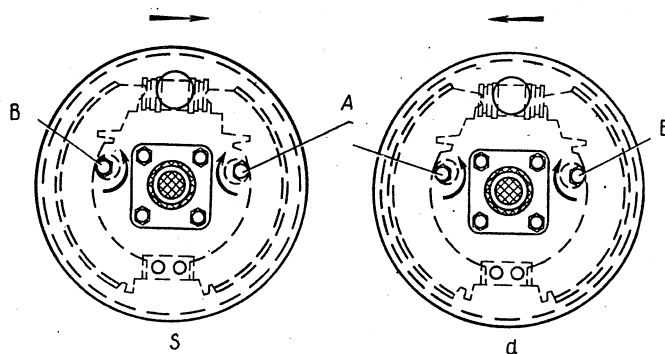

Fig. 6-5. Shoe-to-Drum Clearance Adjustment:
- holding the shoes in the position, turn the hexahedral heads of eccentrics A and B (Fig. 6-5)